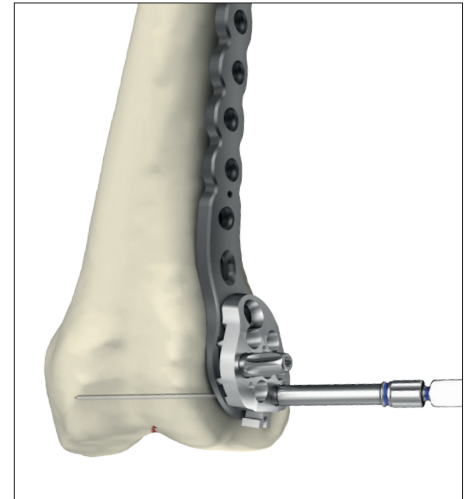

Fig. 10
Using the K-wire sleeve (ref 705041) in conjunction with the drill sleeve (ref 705076 or ref 705042), a 2.0mm x 234mm K-wire (ref 705002) can now be inserted into one of the distal locking screw holes (fig. 10). This step shows the position of the locking screw in relation to the joint and the intercondylar notch, and confirms the screw will not be placed intra-articularly.